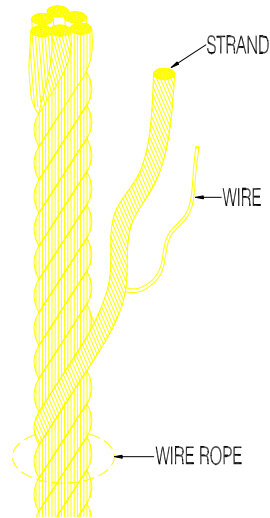

Figure 5-1.
2. Broken wires: (See Figure 5-1.)